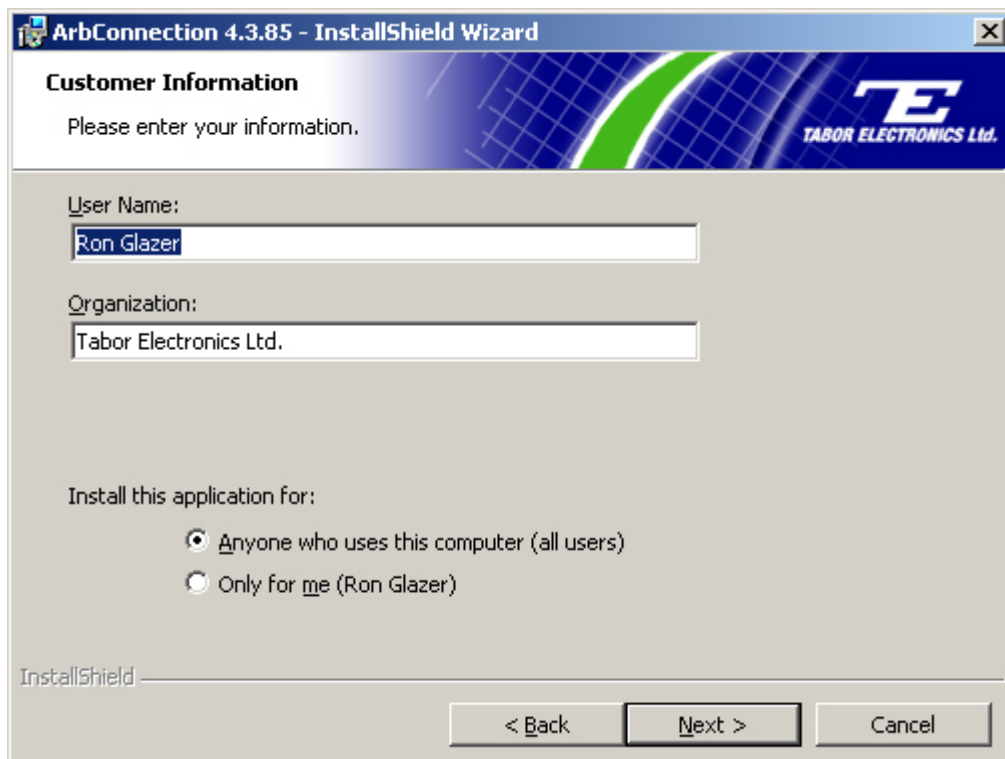

Figure 2-4: Enter Customer Information
4. When setup is complete, you will be asked to enter your name and the name of your company or organization. You then have the option of limiting software usage to only one user, or allowing access to all users, as shown in Figure 2-4.